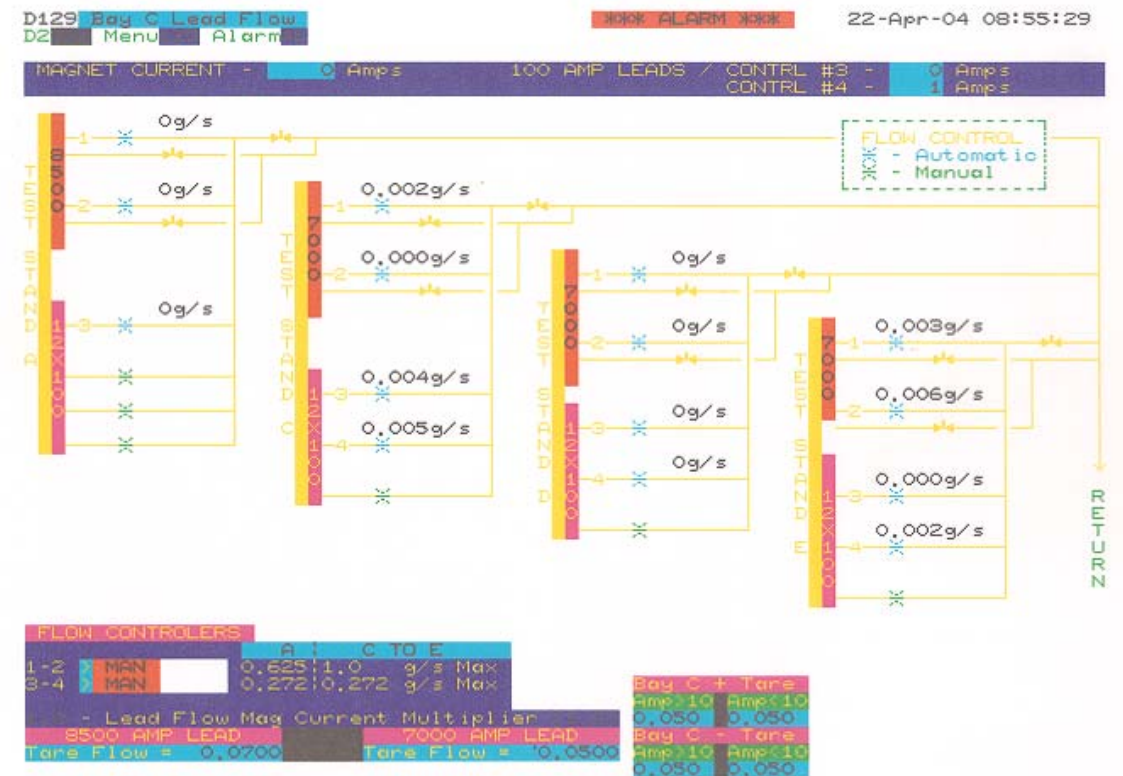

Figure 2. Display of control page D129 for Lead Flow Control of Bay C
5.11 Installing Test and Measure will activate your LEAD FLOW CONTROLLERS. in control page D129 as shown in Figure 2.